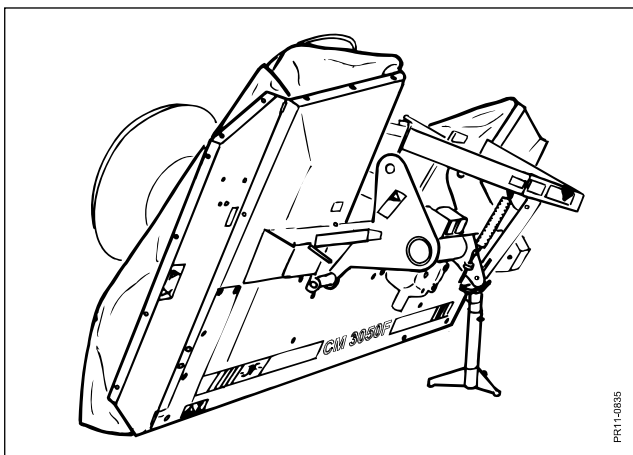

Fig. 5-7
- Fig. 5-7** Now tip the machine manually until the top of the A-frame rests on the support.